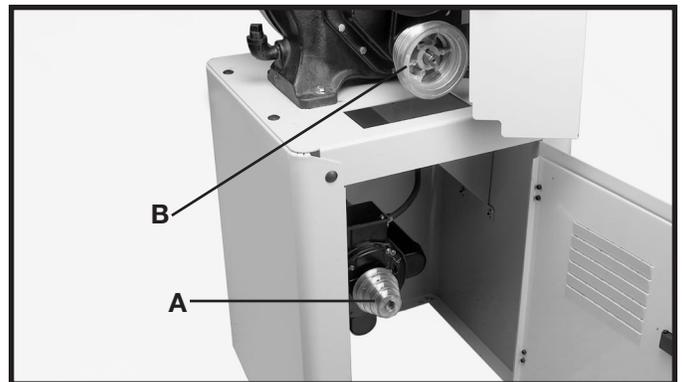

Fig. 24
NOTE: Both the motor pulley (A) Fig. 24, and the gearbox pulley (B) are four-step pulleys and should always be attached inverted to each other.
2. Use a straight edge to align the inside grooves of the pulleys (A) and (B) Fig. 24 to the inside edge of the drive pulley (C). The pulleys can be moved in or out on the shafts and the motor can also be moved.